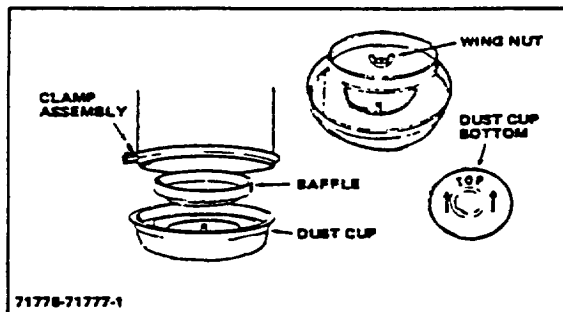

Figure 3-2. Baffle and Dust Cup Details
- a. Loosen clamp assembly (Fig 3-2) and remove dust cup.
Bottom of dust cup is marked with arrows and the word TOP. Air cleaner is mounted in horizontal position. Be sure dust cup arrows point up (Fig 3-2). **DO NOT USE OIL in DUST CUP.**
Air cleaner is mounted in horizontal position. Be sure dust cup arrows point up. (See Fig 3-2) **DO NOT USE OIL in DUST CUP.** Always refer to manufacturer's instructions on air cleaner.